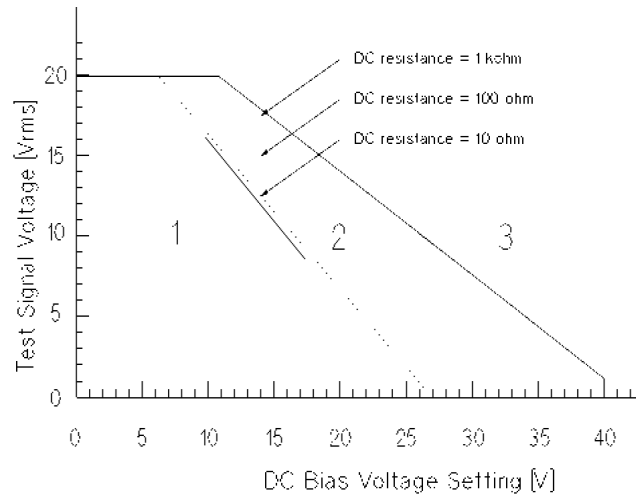

Figure 1-2. Test Signal Voltage and DC Bias Voltage Upper Limits Apply for Measurement Accuracy
5. Test signal voltage and DC bias voltage are set according to Figure 1-2.